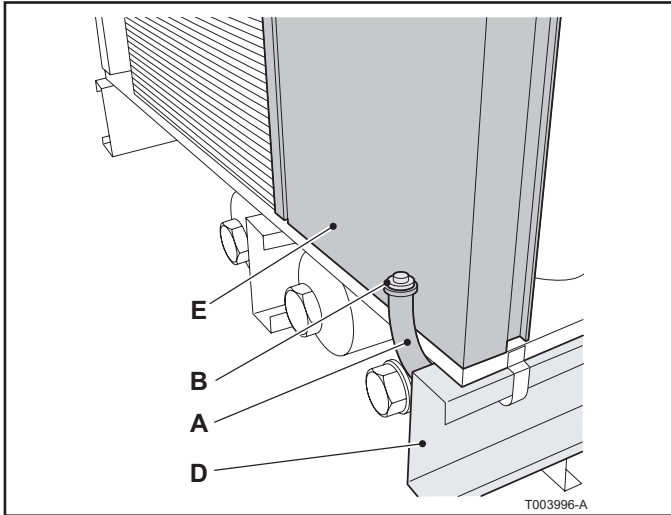
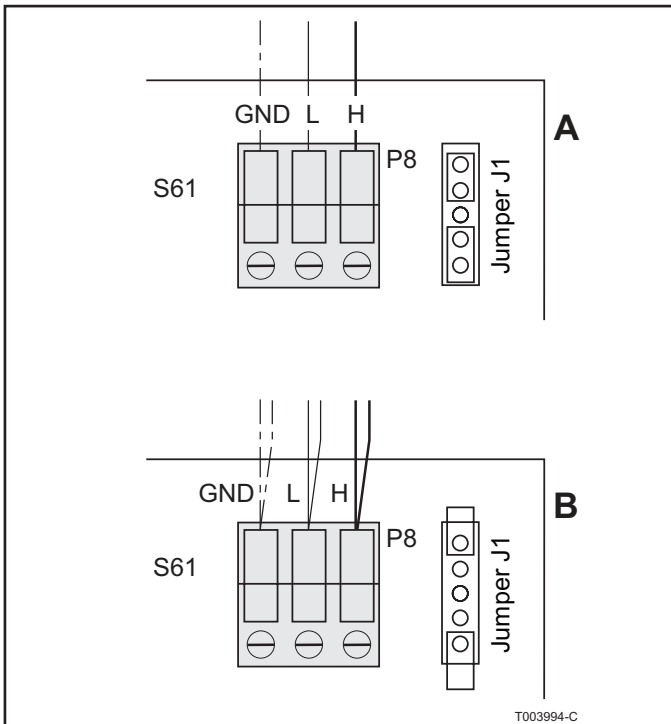

Fig. 29 CAN-bus cable casing and puller wire
Fig. 30 CAN-bus cable connection (end node and intermediate node) on the printed circuit board of the Gas HP heat pump
The last heat pump on each skid is configured as an end node in the factory and is ready to be connected with a CAN-bus cable to the next skid (see Fig. 29 and Fig. 30).
The last heat pump on the first skid must be connected to the GEP for the next skid and is changed from an end node (see A in Fig. 30) to an intermediate node (see B in Fig. 30). Proceed as follows:
- Under the heat pump, behind the support beam (see E in Fig. 29), you will find the CAN-bus cable casing with cap (see A and B in Fig. 29).